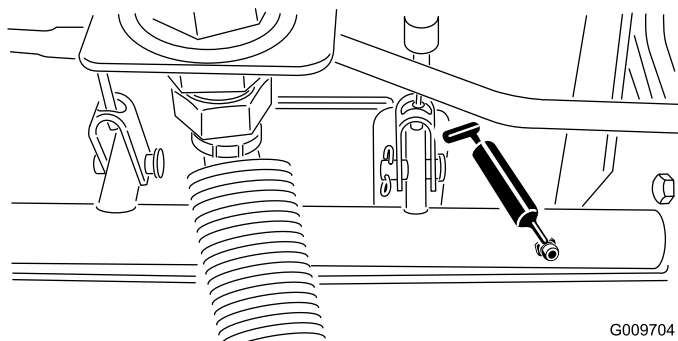

Figure 47
- Brake shaft pivot bearings (5) (Figure 47)